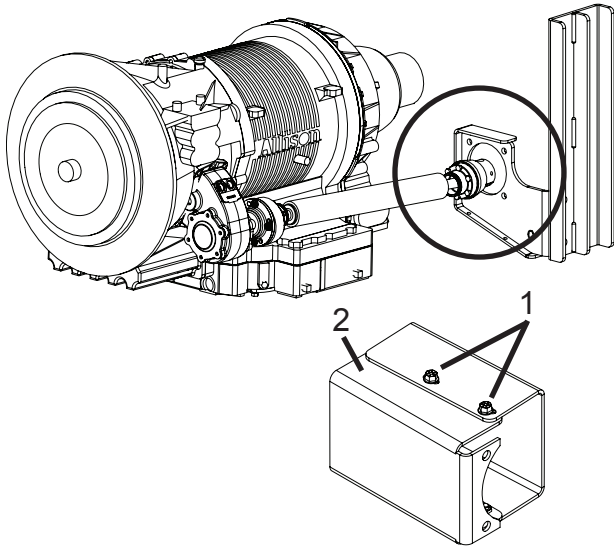

Figure 8
- Reinstall the square pump mount cover (Figure 8, Item 5) with the retained hardware (Figure 8, Item 6). Use a torque wrench to torque the hardware to 28 ft-lbs.